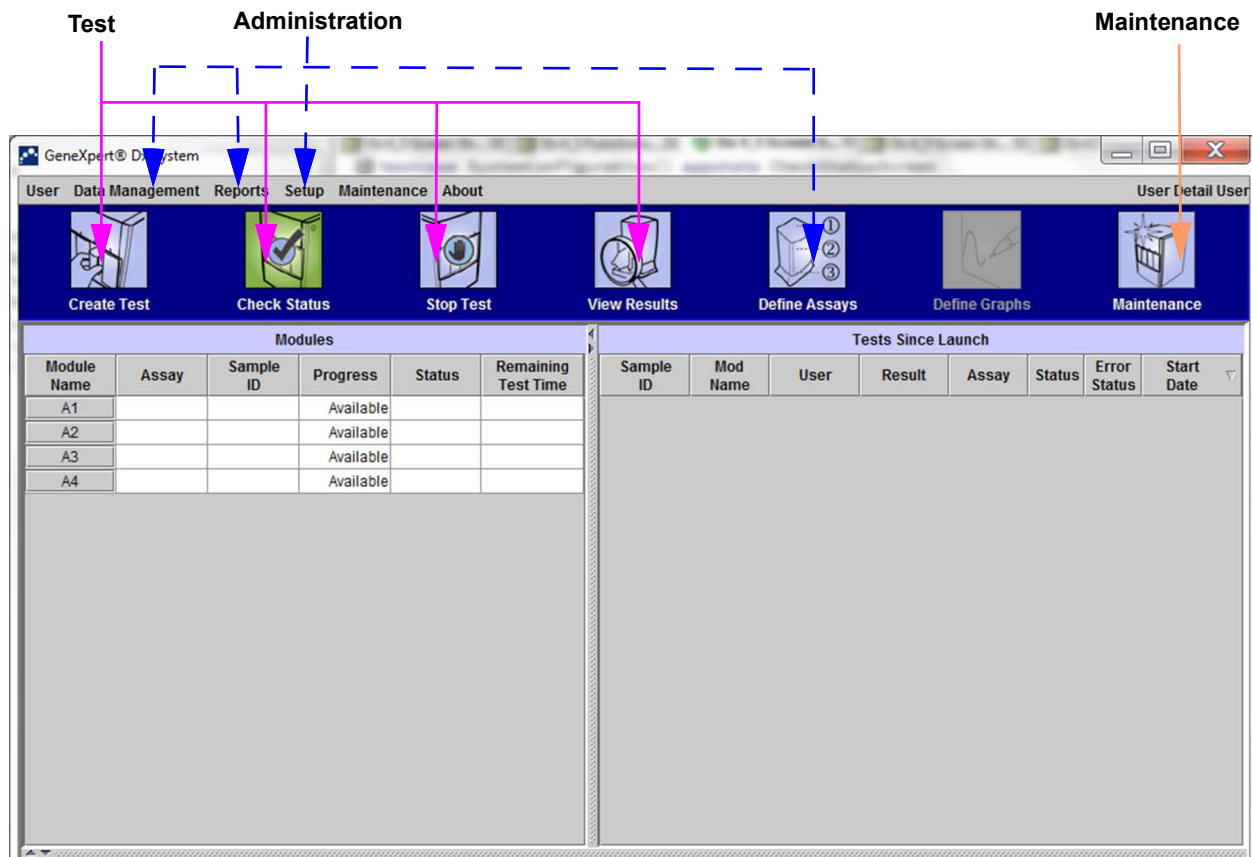

Figure 1-9. The GeneXpert Dx Software Features
- The samples are prepared and processed in single-use, assay-specific GeneXpert cartridges (see Figure 1-9). The sample and applicable reagents are inserted into a cartridge and then the cartridge is loaded into one of the available instrument modules.